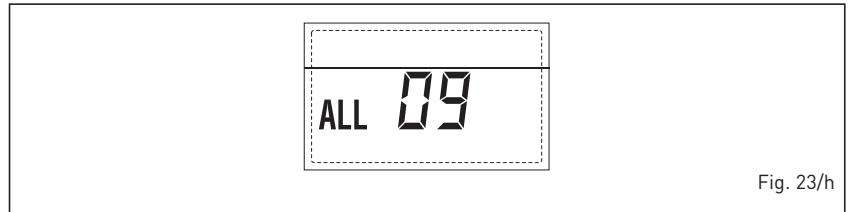

Fig. 23/h
– **AUXILIARY SENSOR ANOMALY ALARM 10 (fig. 23/i)**